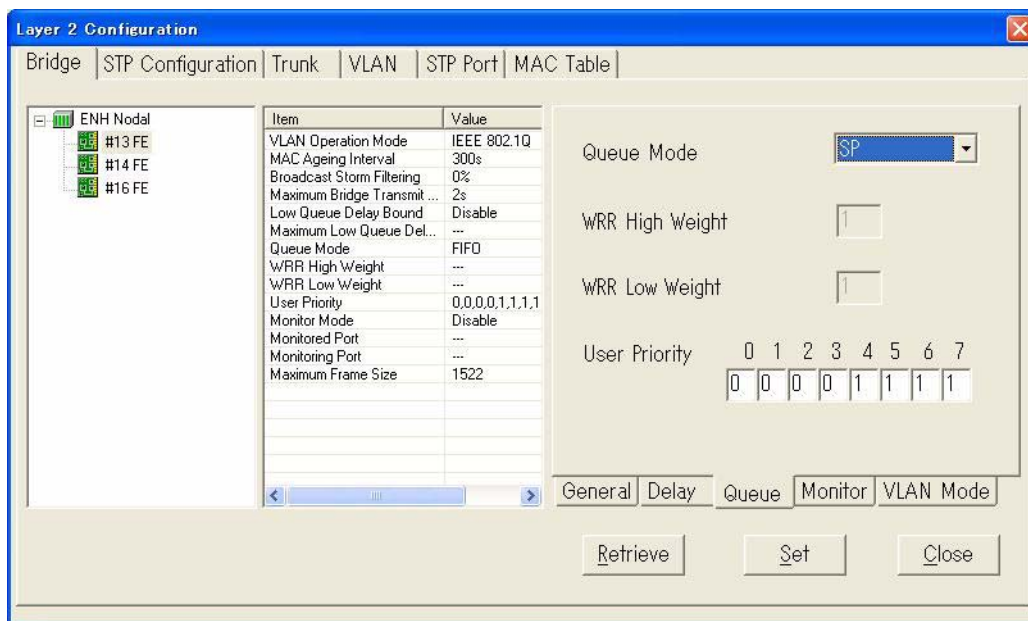
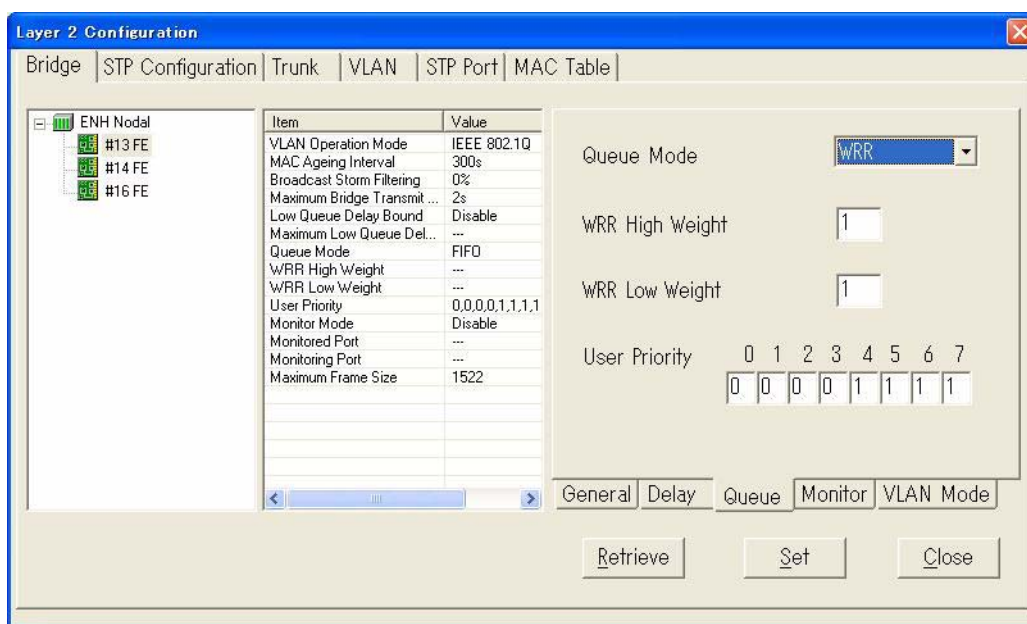
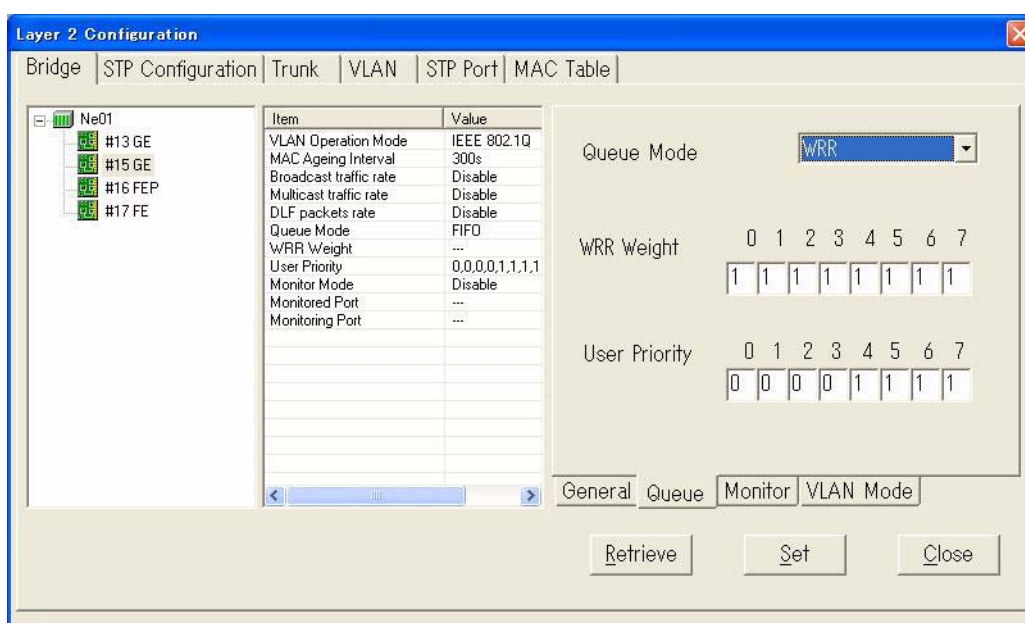

Fig. 4-4-46 SP Selection (FE Card)
Fig. 4-4-47 WRR Selection (FE card)
Fig. 4-4-48 WRR Selection (GE card)
- ii When SP is selected, the order of queue ingress and egress is decided by its priority, namely it is only after all the queues with higher priority are sent out that the queues with lower priority begin to be sent out. The window is shown in Fig. 4-4-46. For FE board, in the figure User Priority of 8 (0-7) kinds of frames may be set as 0 (low user priority) or 1 (high user priority). And for GE board, in the figure User Priority of 8 (0-7) kinds of frames may be set as 0 (low user priority) or 7 (high user priority).
- For FE card, the order of queue ingress and egress is decided by its priority and “weight”. The weight may be rough regarded as the bandwidth possessed by high priority or low priority. The larger value of the weight, the more the bandwidth possesses. The window is shown in **Fig. 4-4-47**. In the figure **User Priority** setting is same to that of **Fig. 4-4-46**. **WRR High Weight** and **WRR Low Weight** may be set a value from 1 to 7 to specify package speed ratio of high user priority (1) and low user priority (0).
- For GE board, the order of queue ingress and egress is decided by its priority and "weight". The bandwidth of each queue is assigned by the configured priority weight. The larger value of the weight, the more the bandwidth possesses. The window is shown in Fig. 4-4-48. In the figure User Priority setting is same to that of Fig. 4-4-47. WRR Weight may be set a value from 1 to 15 to specify package speed ratio of low user priority (0) to high user priority (7).